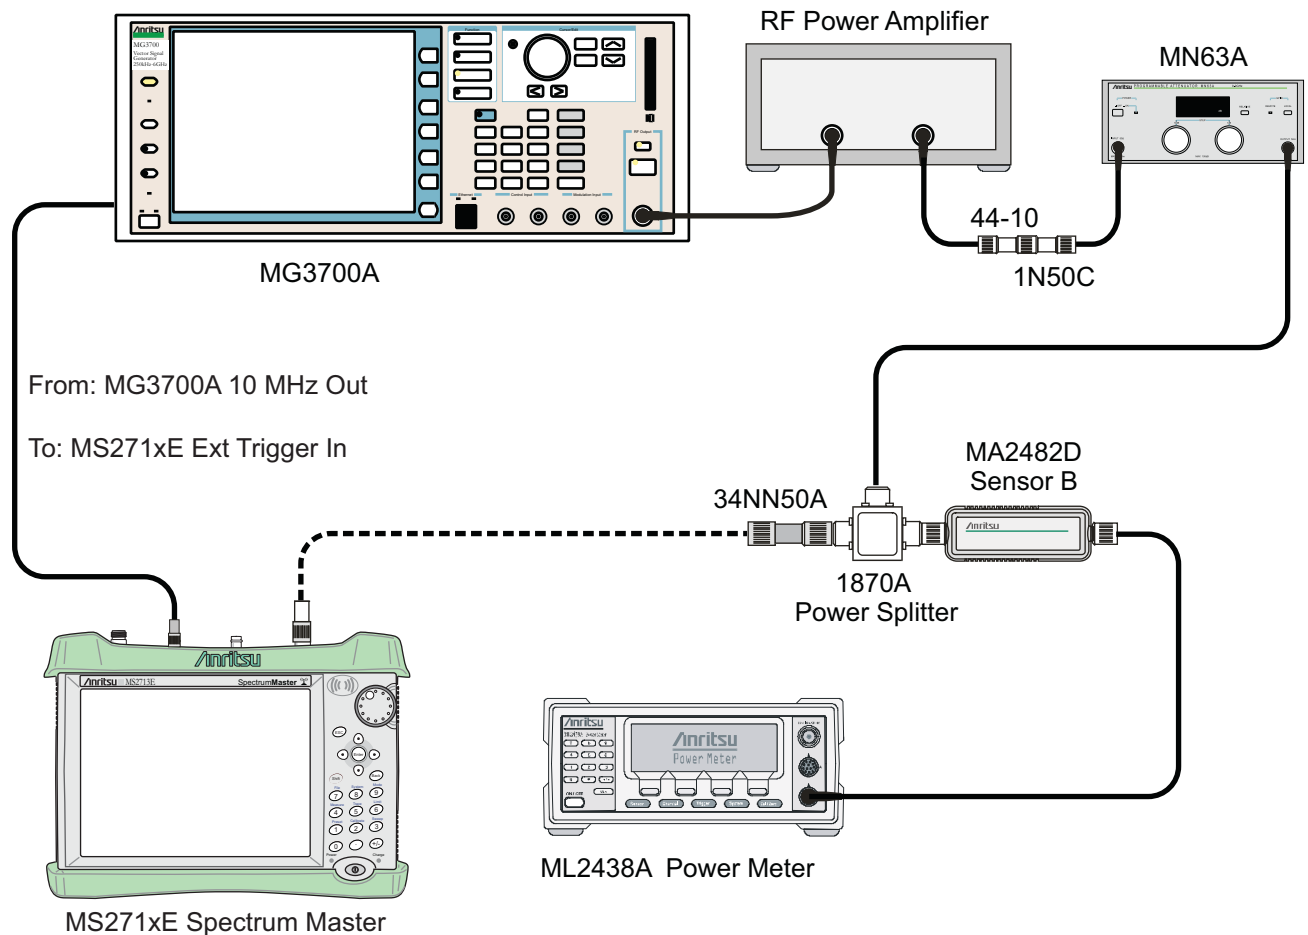

Figure 3-5. ISDB-T Level Accuracy Post-test Setup
15. Remove Sensor A from the Power Splitter and then connect the Power Splitter to the MS271xE Spectrum Analyzer RF In with an N male to N male adapter as shown in Figure 3-5.